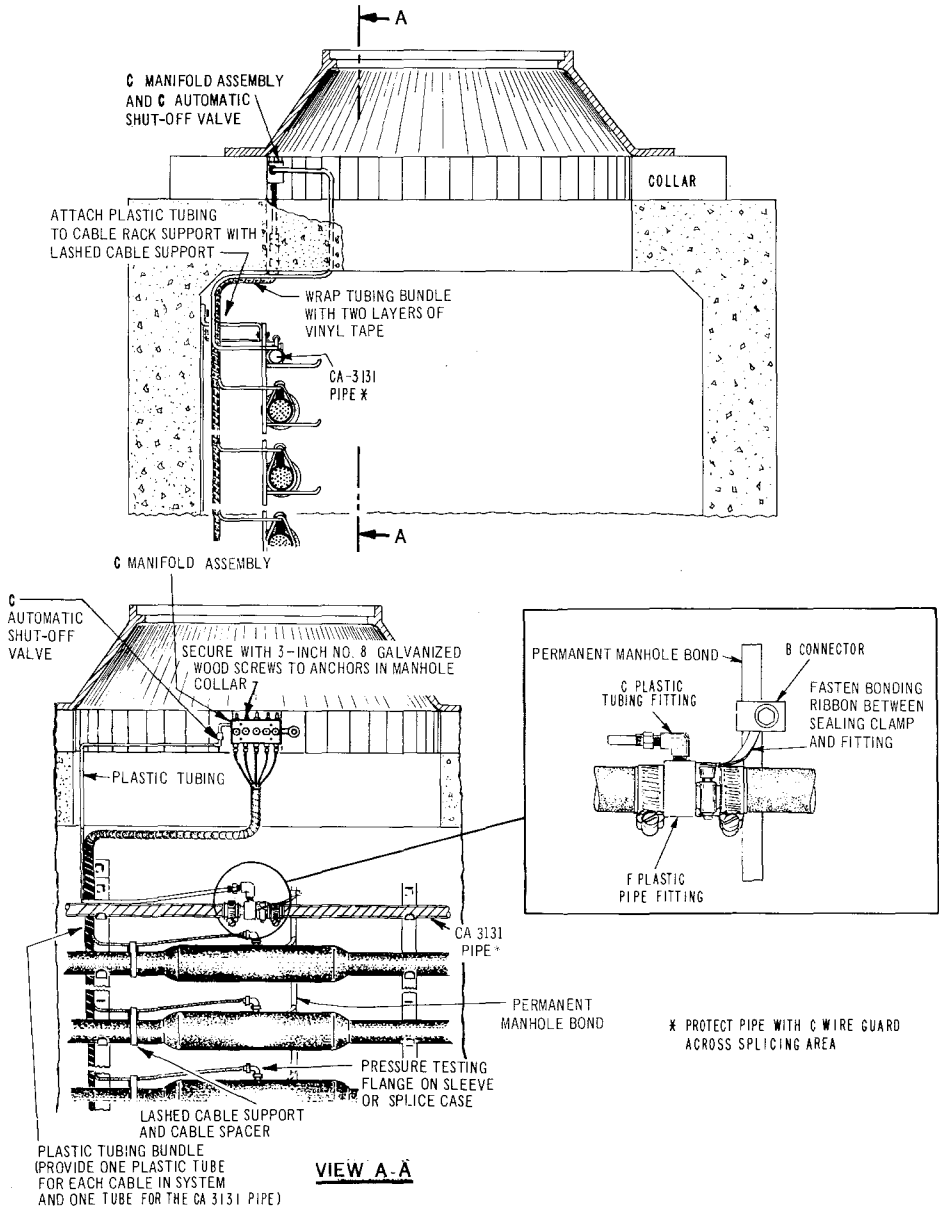

Fig. 1—Arrangement in Manhole Having Manifold Assembly and Automatic Shutoff Valve
3.01 At each manifold manhole, attach the C manifold assembly on the vertical surface of the manhole collar (Fig. 1). Locate the assembly so it will be off the line of pull for subsequent cable placing or removing operations. Where a second manifold assembly is required, remove the fitting and pressure testing valve from the right end of the first assembly
3.04 Bundle and wrap the plastic tubes from each manifold with two layers of vinyl tape to protect them around the bend of the manhole roof (Fig. 1). Form the tubing bundle along the manhole roof and down the wall adjacent to the cable rack supports. Secure the tubing bundle to one of the rack supports with a lashed cable support. Wrap the bundle with two layers of vinyl tape under the lashed cable support.
3.11 At each manifold location, it will be necessary to bond the CA-3131 or CA-3131 UM air feeder pipe to the permanent manhole bond with bonding ribbon (Fig. 1).